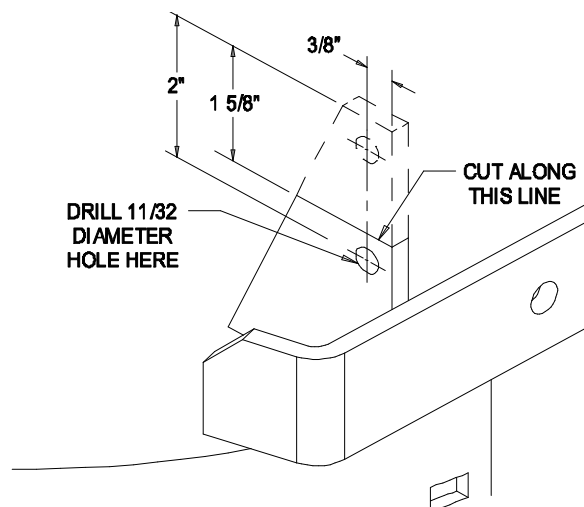

FIGURE 4
For 48" decks with Serial Nos. 203376 and lower: Verify that the unit has discharge chute tabs that measure 4" high from the top of the deck plate before continuing with Step d). See Fig 4.
- m) Locate and drill a new hole for the chute tabs 2" down from the top and 3/8" from the outside of the tabs. See Figure 4.
- n) Cut off the chute tabs 1 5/8" down from the top. See Figure 4.